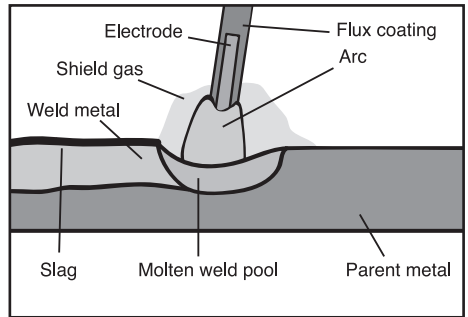

FIG.19
However for low amperage/smaller diameter electrodes the points length should be double the electrodes diameter (Fig.19).
9.6 ARC WELDING, FILLER ROD (ELECTRODE) SELECTION - FIG. 19